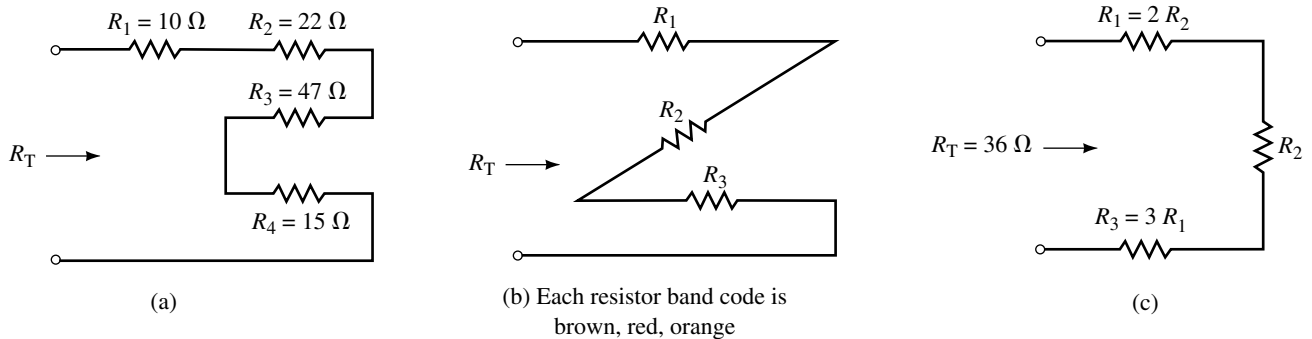

FIGURE 5–64
11. For the circuits shown in Figure 5–65, determine the total resistance, R_T , and the current, I .